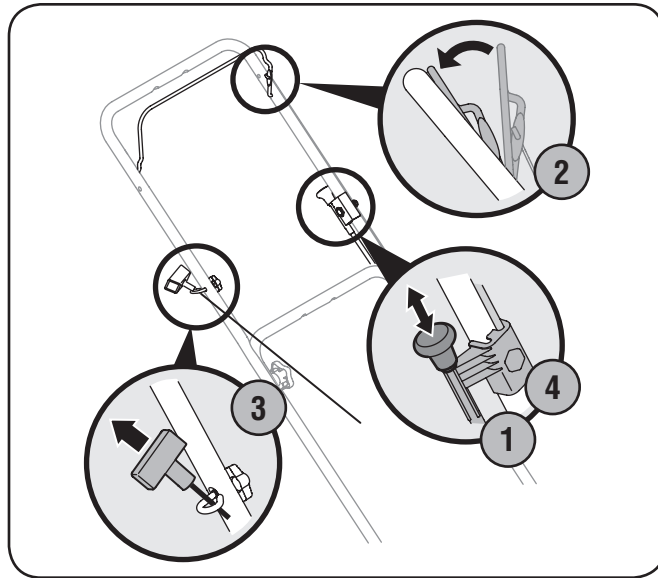

Figure 10-3
1. Pull out the choke knob located on the left side of the upper handle. See Fig. 10-3.
3. Pull the starter grip lightly until resistance is felt, then pull rapidly to overcome compression, prevent kickback, and start engine. Repeat if necessary. See Fig. 10-3.
4. When engine warms up, push in the choke knob. See Fig. 10-3.